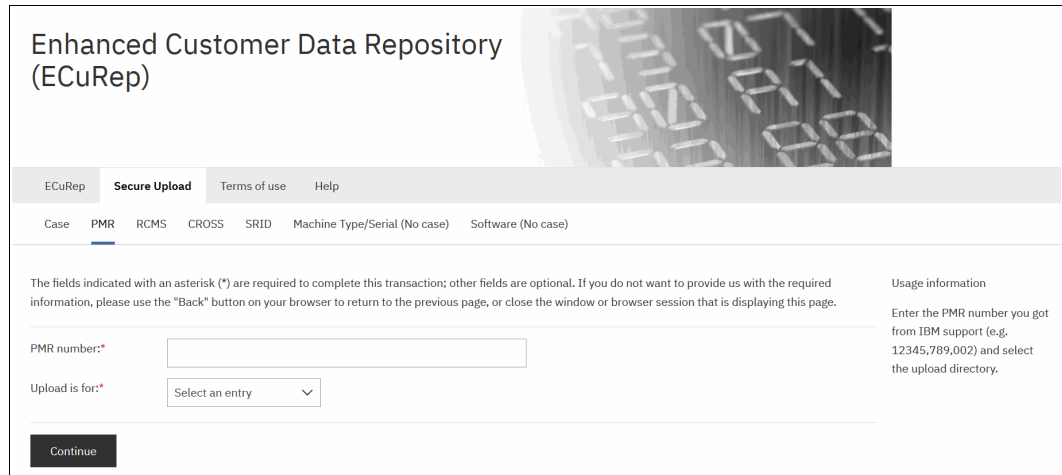

Figure 13-68 ECuRep details
1. Using a web browser, go to Enhanced Customer Data Repository \(ECuRep\) (see Figure 13-68).